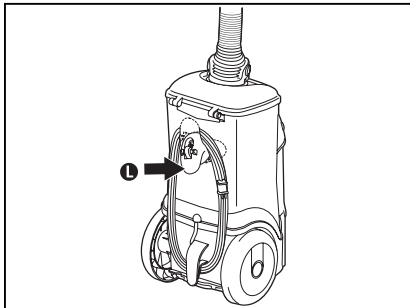

Fig. 7
**Step 5:** Rotate swivel cord hook (L) on bottom of canister to release cord (Fig. 7).
**Step 3:** Rotate swivel cord hook (L) on bottom of canister to release cord (Fig. 7).